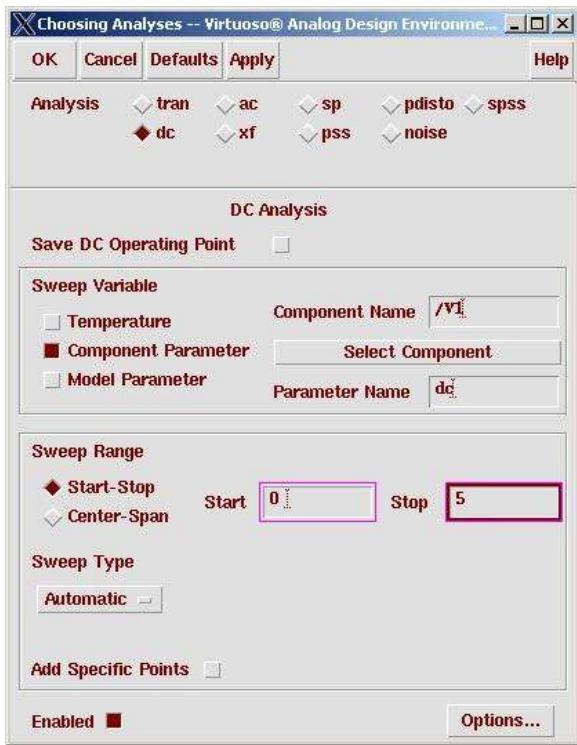

Figure 6.30: DC analysis dialog box
5. When you select (click on) the **vdc** connected to the transistor drain, you get another box (Figure 6.29)that asks you to select the component parameter that you want to sweep. We want to sweep the **dc voltage**. Click on that and then OK. You'll see that the component name (**/V1** in my circuit) and the parameter name (**dc**) have been added to the **Choosing Analysis** dialog box which now looks like that in Figure 6.30.